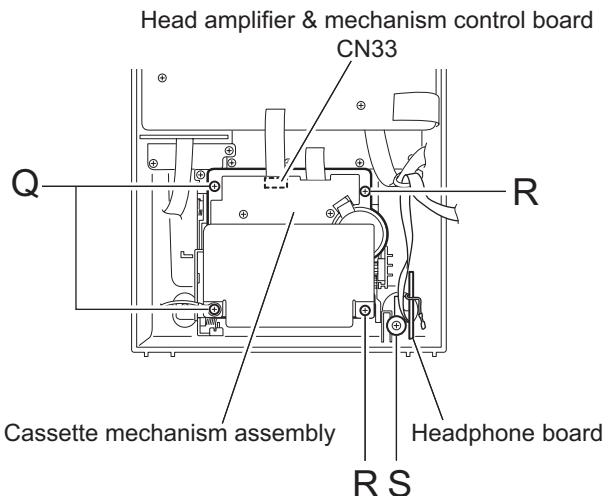

Fig.30
2.2.1 Removing the cassette mechanism assembly (See Fig.30)
2.2.2 Removing the headphone board (See Fig.30)